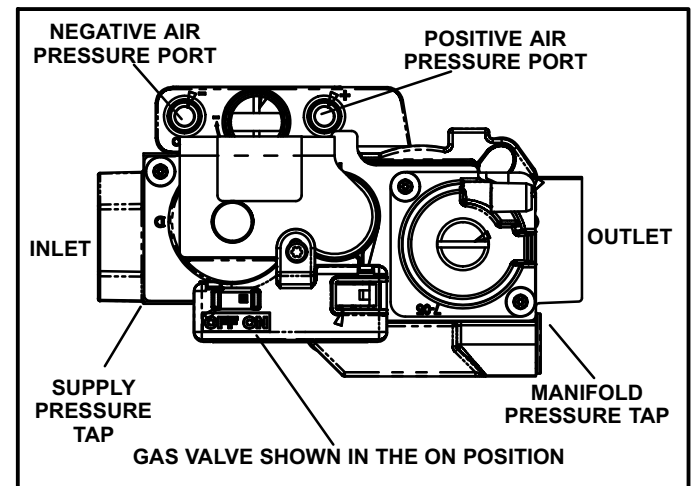

FIGURE 44
Gas Valve Operation (Figure 44)
- 6 - Move the gas valve switch to the **OFF** position. See figure 44.
- 8 - Move gas valve switch to the **ON** position. See figure 44. Do not force.
When testing supply gas pressure, connect test gauge to supply pressure tap on the gas valve. See figure 44. Check gas line pressure with unit firing at maximum rate. Low pressure may result in erratic operation or underfire. High pressure can result in permanent damage to gas valve or overfire. See table 25 for operating pressure at unit gas connection (line).